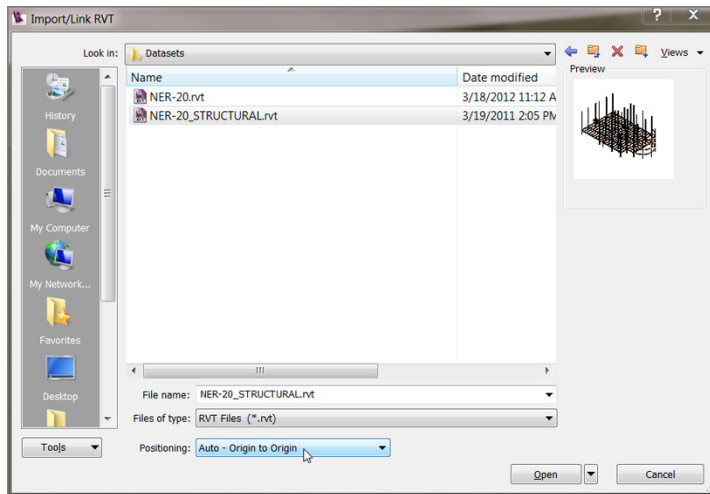

FIGURE 20.2: Pay attention to the choices provided before you click Open.
6. At the bottom of the dialog, you have a choice of Positioning. Select Auto - Origin To Origin, as shown in Figure 20.2.